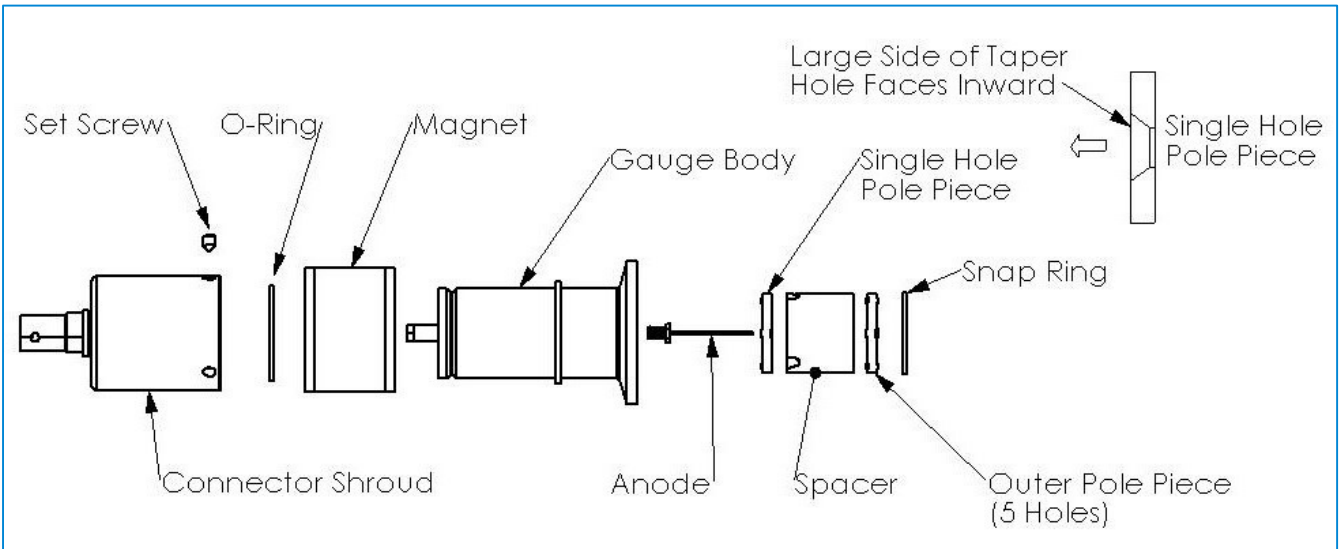

Figure 1-1 IMG100 Exploded View
The proper orientation is shown in Figure 1-1.
7. Drop the O-ring on top of the magnet (see Figure 1-1).